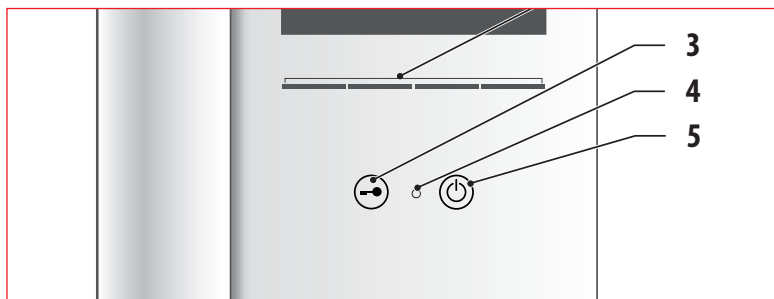

Fig. 8. Press the door open button on the indoor station.
The red LED on the Indoor Video Station will flash rapidly (4, Fig. 8) to indicate that the station is in programming mode.
- > Press the door open button (3, Fig. 8) on the Indoor Video Station.
- > Press the On/Off button (5, Fig. 8) on the Indoor Video Station or lift the handset (VH40/45 only).